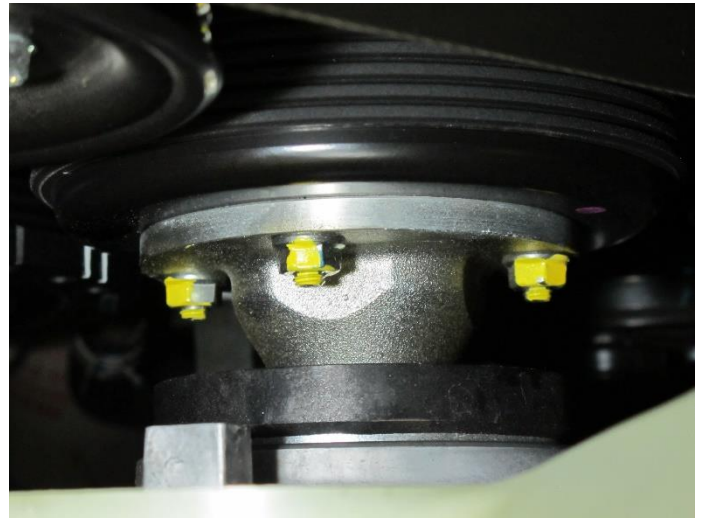

Figure 14
12. Verify all (4) fan coupling nuts are marked with the paint pen (Figure 14).